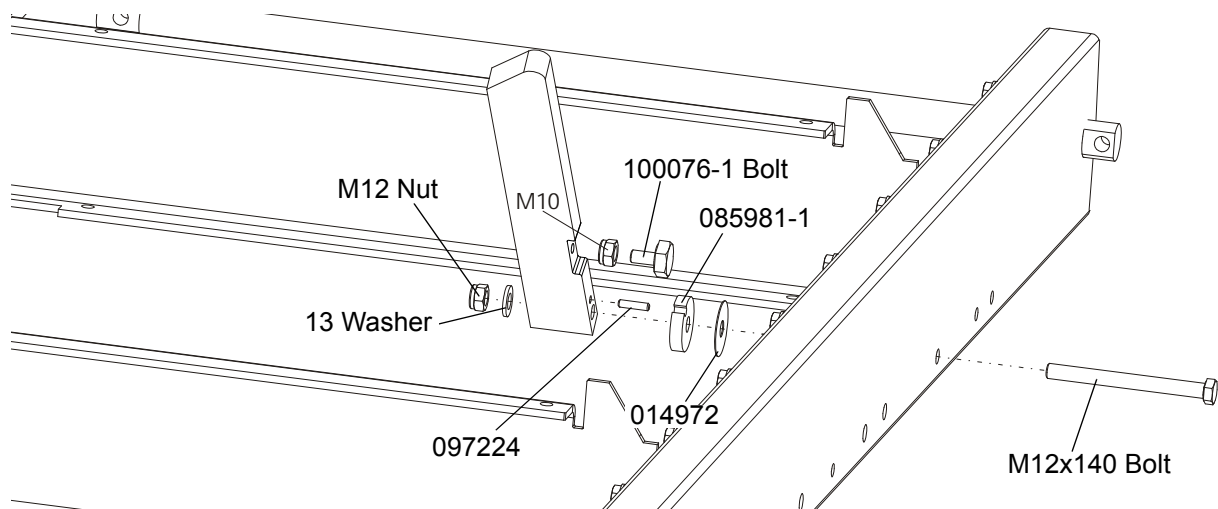

FIG. 2-7
8. Install the log side supports as shown in Figure 2-7. Tighten the nuts so that the side supports can be moved with little resistance. See Section 6.11.
See Figure 2-7.